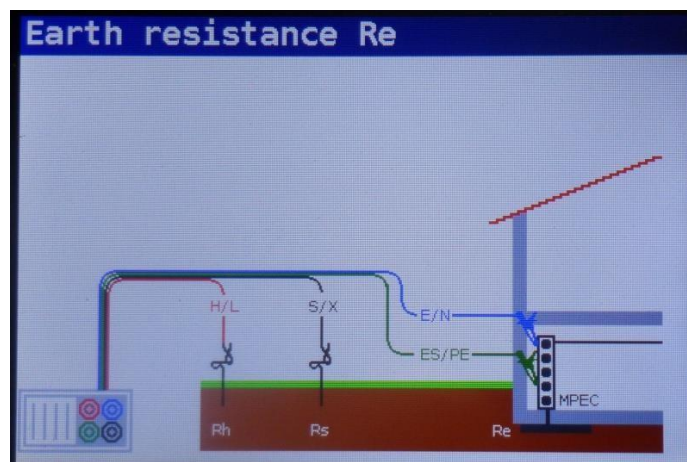

Figure 5-47: 4 wire connection diagram
Step 3 Follow the connection diagram shown in figures 5.47 to perform the **Earth Resistance** measurement with 4 wires.